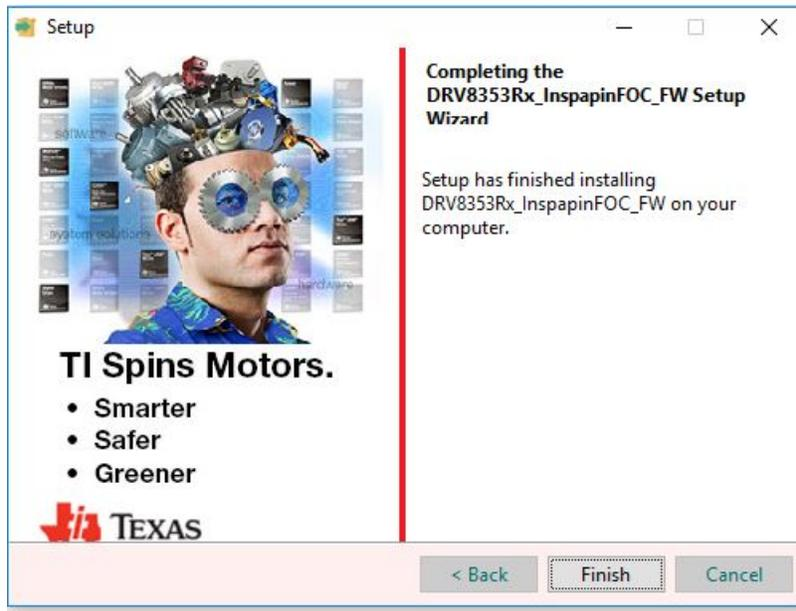

Figure 9. Finish
- Step 7. Click the Finish button when the files are successfully installed in the destination folder (see Figure 9).